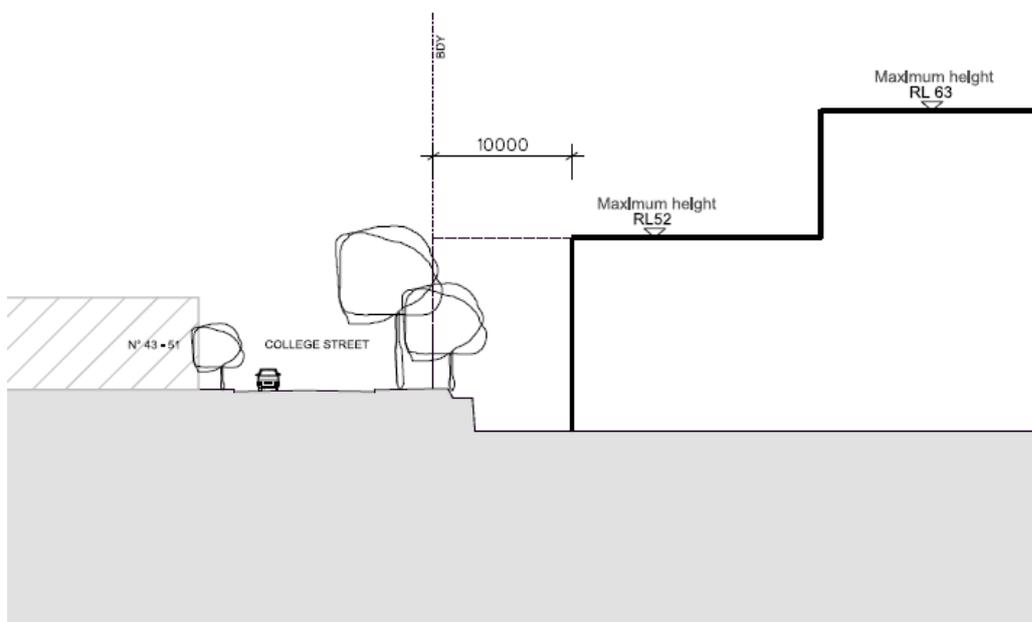

Figure 2.3.3 Section B College Street frontage setbacks
- b. A minimum 10m landscape setback is required on the boundaries that adjoin residential property in accordance with figures 2.3.3, 2.3.4, 2.3.5 and 2.3.6.